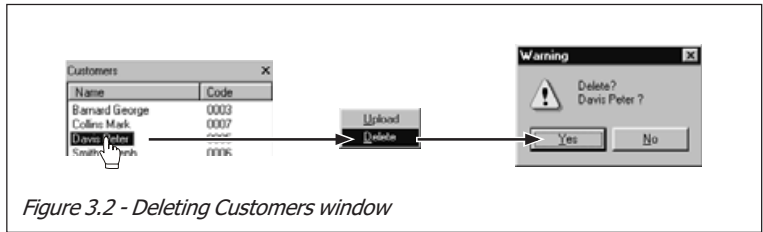

Figure 3.2 - Deleting Customers window
- **Delete** - This command will allow you to delete the selected Customer from the Customer list, and consequently from the Database (see Figure 3.2).